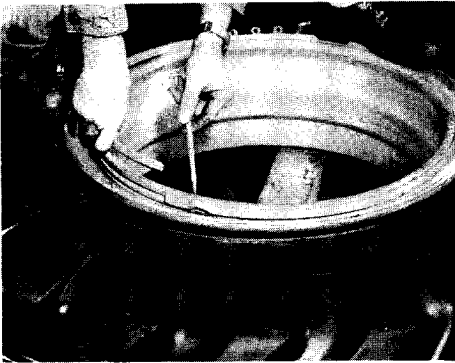

Figure 100
5. Stand on the flange and tire using your body weight to depress the flange far enough to insert the tool and pry the lock ring loose, Figure 100.